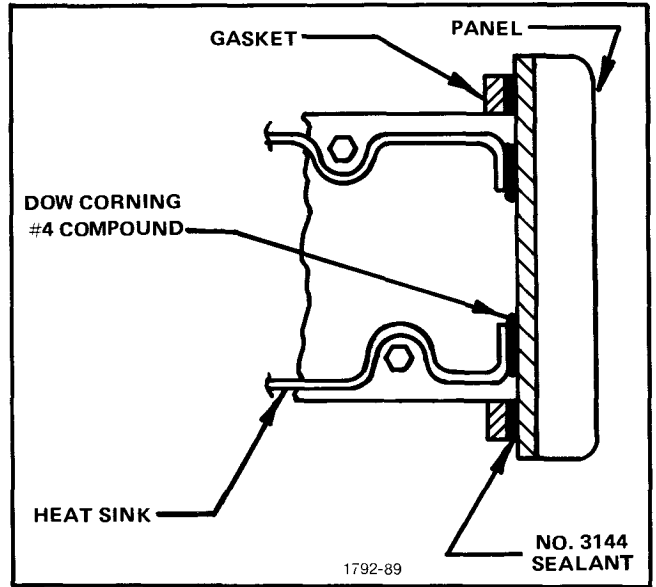

Fig. 5-36. Application of dielectric type compound.
3. Apply a film of Dow Corning No. 4. Compound to the mating surfaces of the heat sinks and the Panel and join as shown in Fig. 5-36.
5. Apply a bead of G-661 silicone grease on and around the gasket and attach it to the Panel as shown in Fig. 5-36.